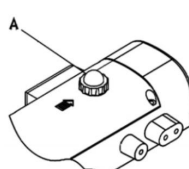

图5 (Fig.5)
(1) 润滑油的注入(图 5&6)
1.Filling lubricant oil :(Fig.5&6)